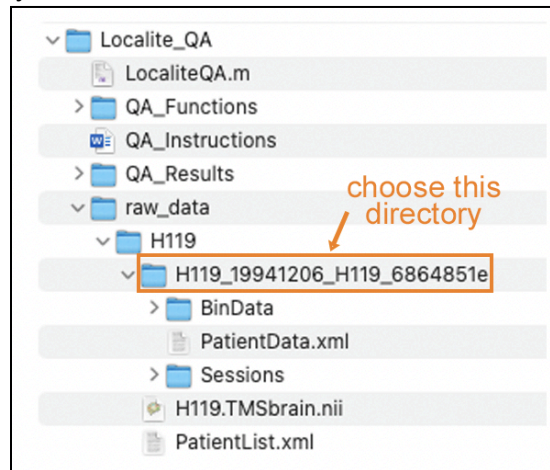

Figure 2. The LocaliteQA toolbox is looking for the Localite-generated folder (shown here) inside the subject's directory.
subject's folder. You must select a folder that was created by Localite; this folder's name begins with the label (TMS operator provided to Localite during session setup), followed by letters/numbers (see **Figure 2** for example). This selected folder must contain (at minimum) a BinData directory, Sessions directory, and a PatientData.xml file, all of which are generated by Localite. Note that how the TMS sessions are initiated in Localite by the TMS operator may influence how Localite structures the contents of the subject directory.
- 6) Review the output.** The LocaliteQA toolbox creates a folder in the QA_Results directory using the user-provided label (step 2) and timestamp, and saves all output into this folder. Output files include the extracted data from Localite in .mat format (e.g., session info, di/dt, entry and target coordinates, instrument marker coordinates, coordinates of each TMS pulse, and RMS deviation from Localite registration), a .txt file containing all the output to the MATLAB command window from the toolbox, and corresponding plots in .png and .fig format. See Figure 2 in the manuscript by Burns and Hermiller for example output.